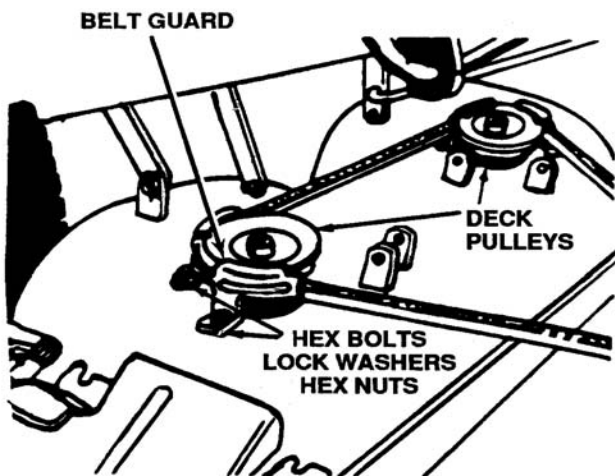

Figure 12-35. Removal of Belt Guards
8. Remove the belt guards at each deck pulley by removing the hex bolts, lock washers and hex nuts. See Figure 12-35.